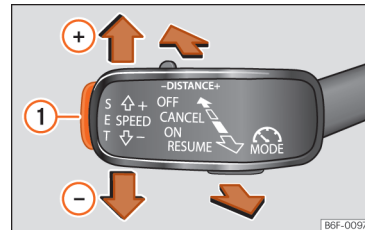

Fig. 151 On the left of the steering column: third lever for operating the GRA.
- Push button **SET** »» Fig. 151 ①.
- Press the button **SET**  **Fig. 151**  to reduce speed in small increments of 1 km/h (1 mph).